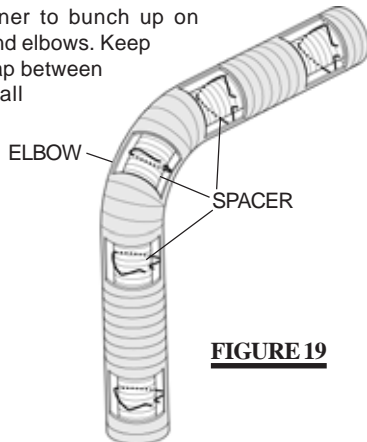

FIGURE 19
Do not allow the inside liner to bunch up on horizontal or vertical runs and elbows. Keep it pulled tight. A 1 1/4" air gap between the liner and outer liner all around is required for safe operation. A spacer is required at the start, middle and end of each elbow to ensure this gap is maintained. See **Figure 19**.
2. Fasten the roof support to the roof using the screws provided. **FIGURE 19**. The roof support is optional. In this case the venting is to be adequately supported using either an alternate method suitable to the authority having jurisdiction or the optional roof support.